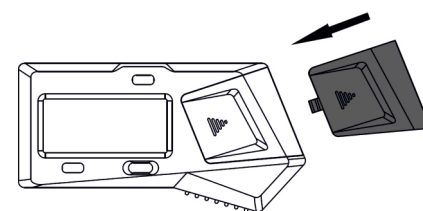

Fig. 3
- » Reattach the battery cover (Fig. 3).